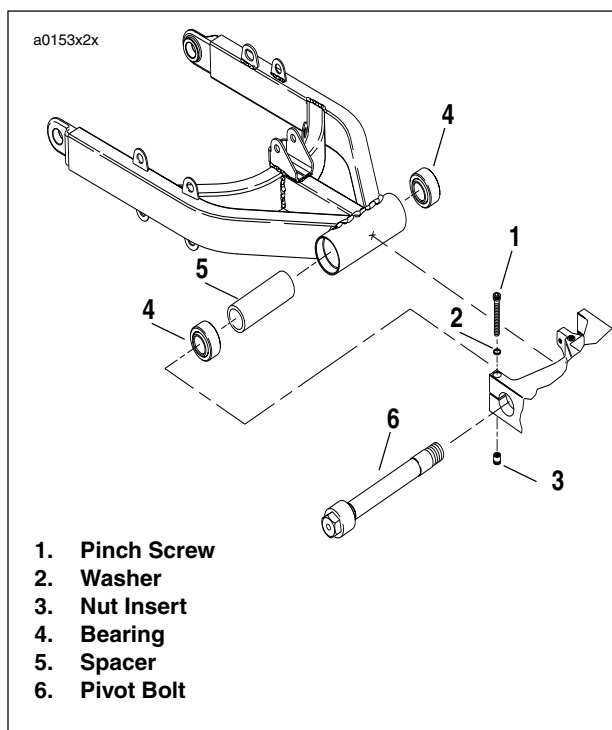

Figure 2-92. Swingarm
11. See Figure 2-92. Loosen swing arm pinch bolt (1).
12. Remove swingarm pivot bolt (6) and swingarm.
14. Use slide hammer (SNAP-ON Part No. CJ1275 or equivalent) and bearing remover to remove bearings (4).
15. Remove swingarm spacer (5).
1. See Figure 2-92. Install new bearings (4) and spacer (5).
2. Position swing arm in mounting block. Apply anti-sieze to swingarm bolt (6) and install. Torque to 24-26 ft-lbs (33-35 Nm).
3. Apply LOCTITE 243 BLUE to pinch bolt (1) and install. Torque to 17-19 ft-lbs (23-26 Nm).